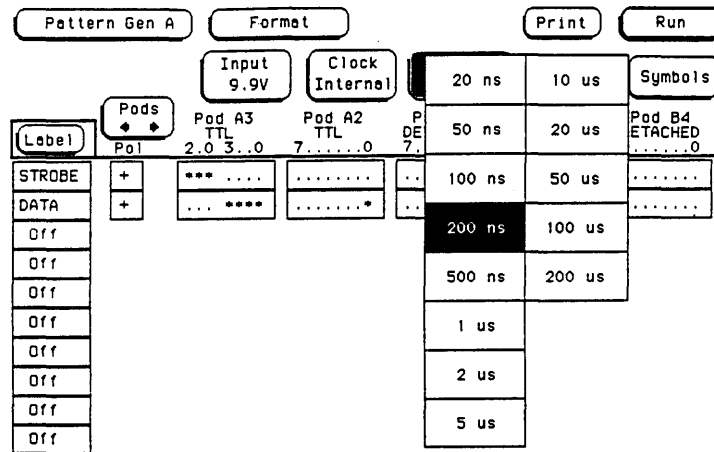

Figure 4-9. Period Selection
- j. Touch **Period**, then **200 ns**. See figure 4-9.